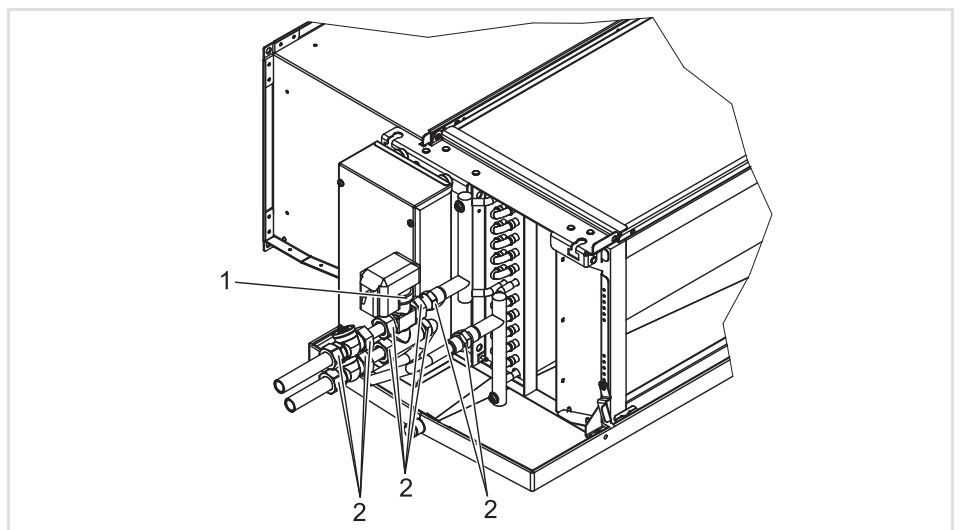

Fig. 8-3: Checking bolt and screw medium connections
- Check the firm seat of all screws of the medium connections (see Fig. 8-3, Pos. 2 for example).
- Manually verify the fastening of the actuators (see Fig. 8-3, Pos. 1 for example).